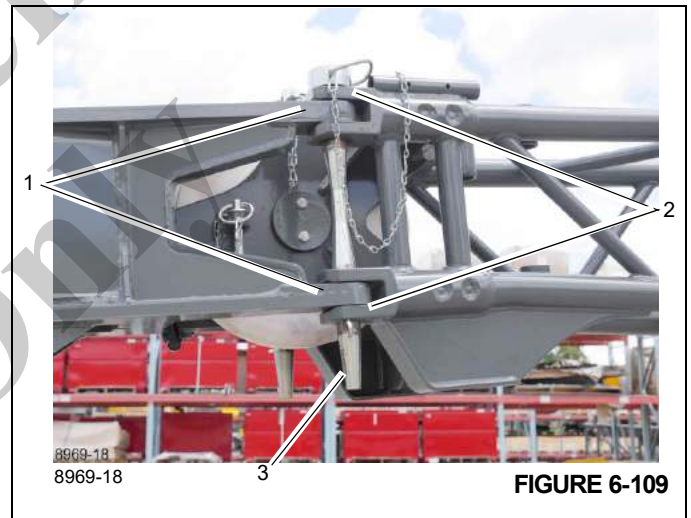

FIGURE 6-106
18. Attach the tag line to the nose of the fly extension. Secure the tag line to the base extension (Figure 6-106).